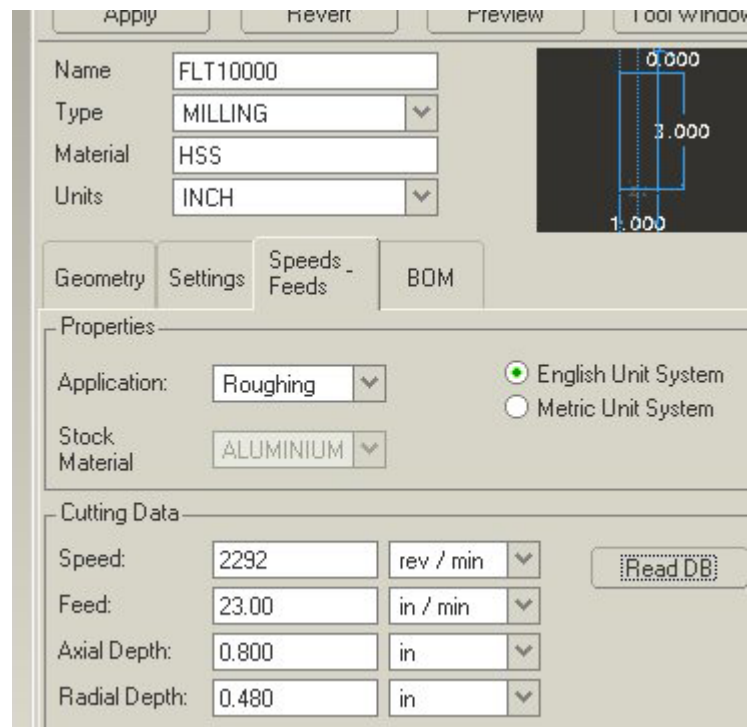

Figure 2: The Tools Setup dialog
- c) Supply speed, feed, axial depth, and radial depth data. See Figure 2.